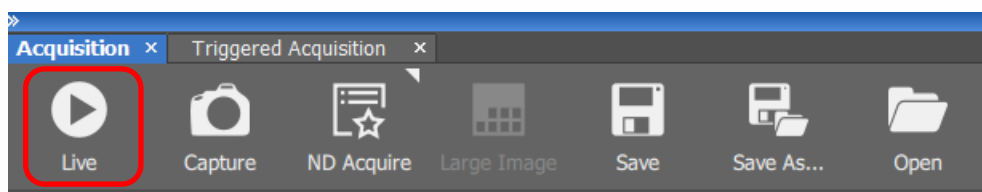

Figure 12: To start Sequence Runner for live image acquisition, select 'Live' (red box)
12. Select 'Live' to begin live image acquisition using Sequence Runner (Figure 12). Alternatively, please see our Quick Start Guide for guidance on how to use ND Acquire.
1. Select 'ND acquire' (Figure 12) and follow the instructions on the 'ND Acquisition Wizard' to run a timelapse experiment.